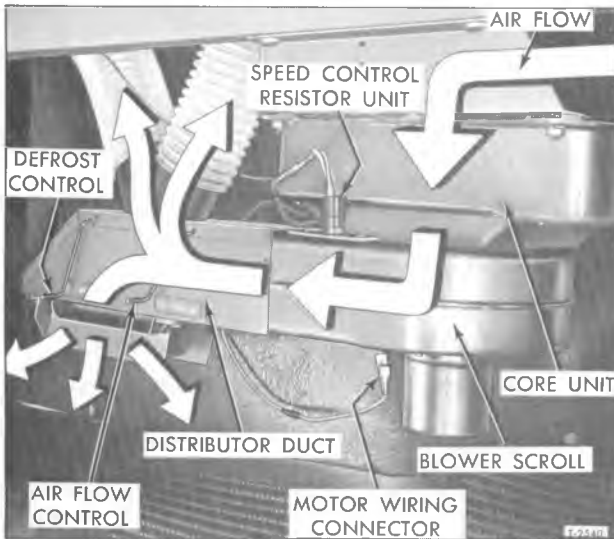
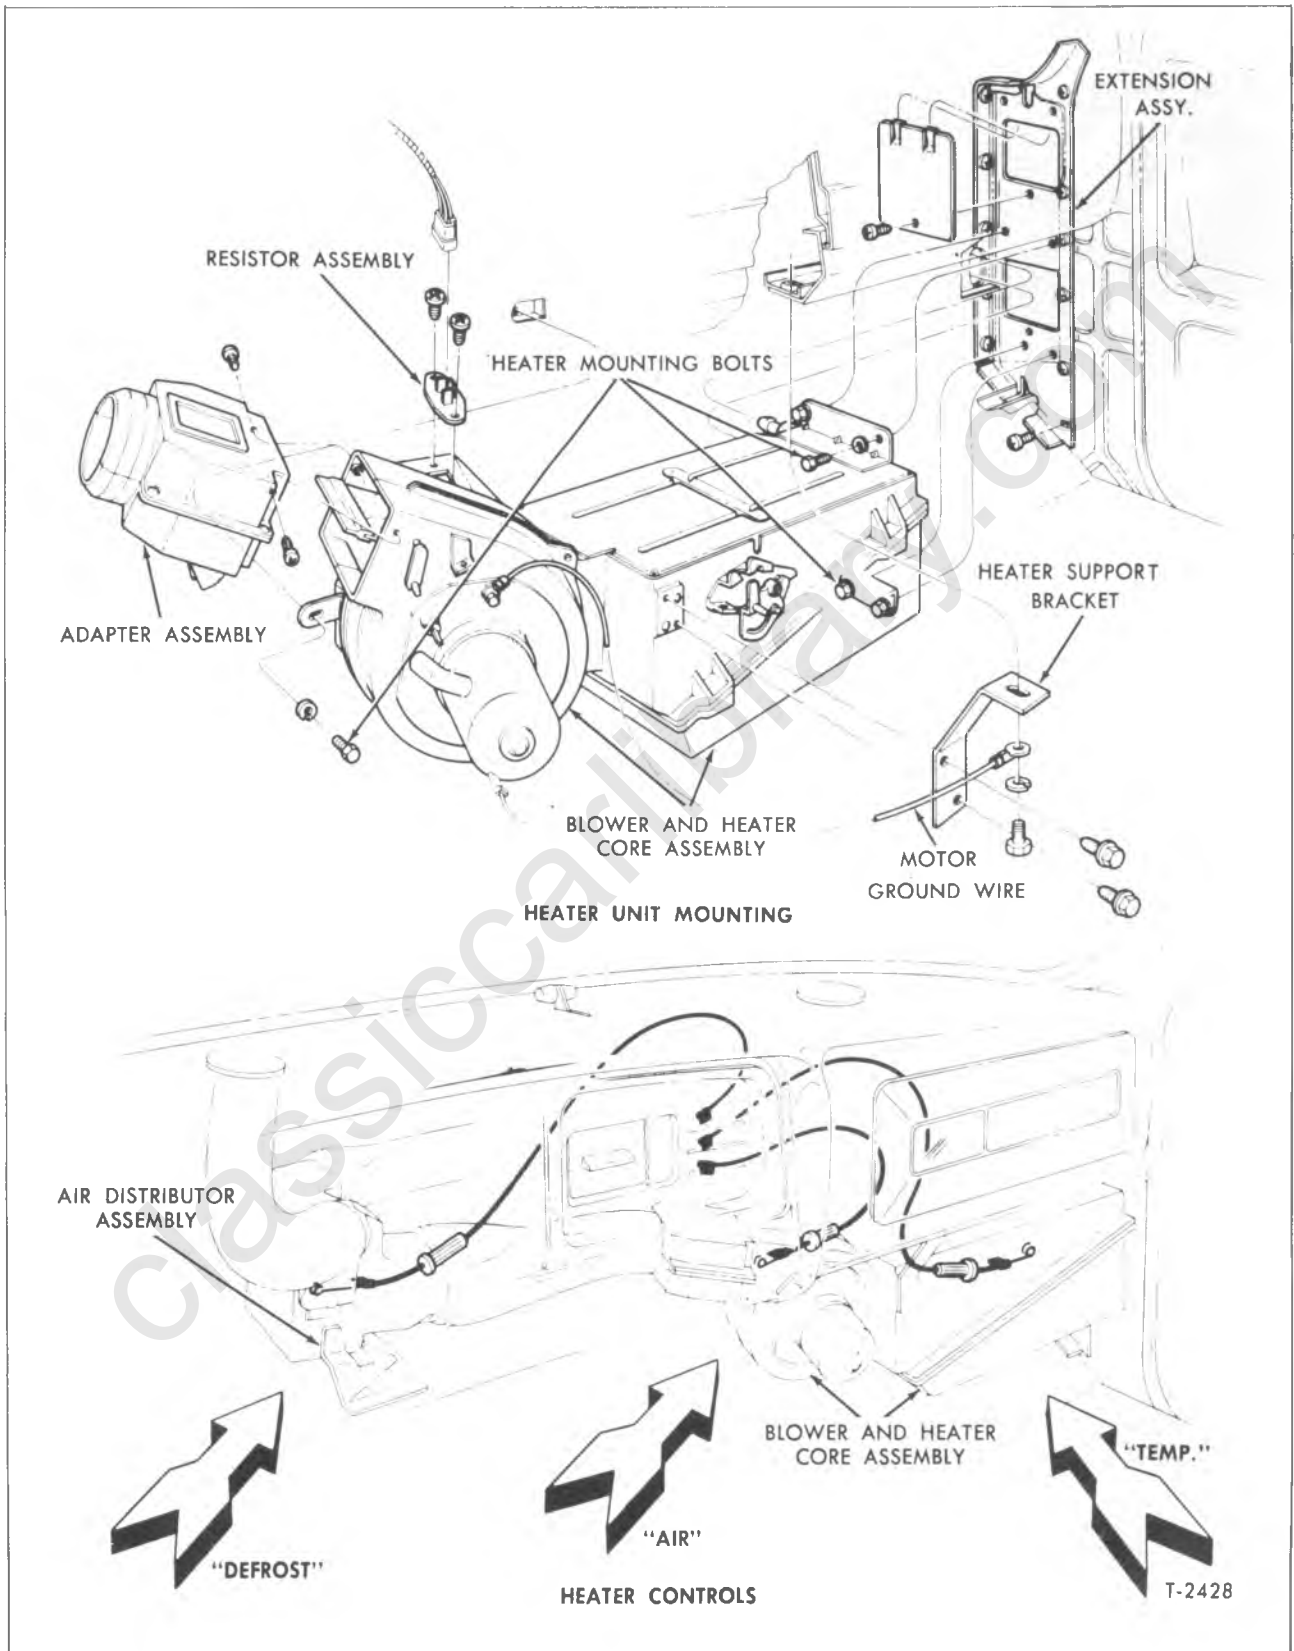

Figure 28—Standard Duty Air-Flow Heater
Figure 29—Heavy Duty Air-Flow Heater
Two types of heaters may be used in these conventional cabs, the standard duty air-flow type (fig. 28), and the heavy duty air-flow type (fig. 29).
Both the distributor duct and the blower assembly can be readily replaced separately without having to remove the heater core unit from cab. The replacement procedure following describes the method for replacing the heater air distributor, the blower and motor assembly, and the heater core unit which are all shown in figure 28.
#### REMOVAL (Fig. 28)
#### INSTALLATION (Fig. 28)
The heavy duty air-flow heater operates on full outside air and has a three lever control panel and a blower motor control switch on dash (fig. 29).
#### REMOVAL (Fig. 29)
5. Connect the "AIR" and "TEMP." controls to heater assembly. Lower view in figure 29 shows connections.
The air distributor can be readily replaced after disconnecting the attaching air hoses and the "DEFROST" control wire, then removing the three screws which attach distributor to dash and cowl (fig. 29).